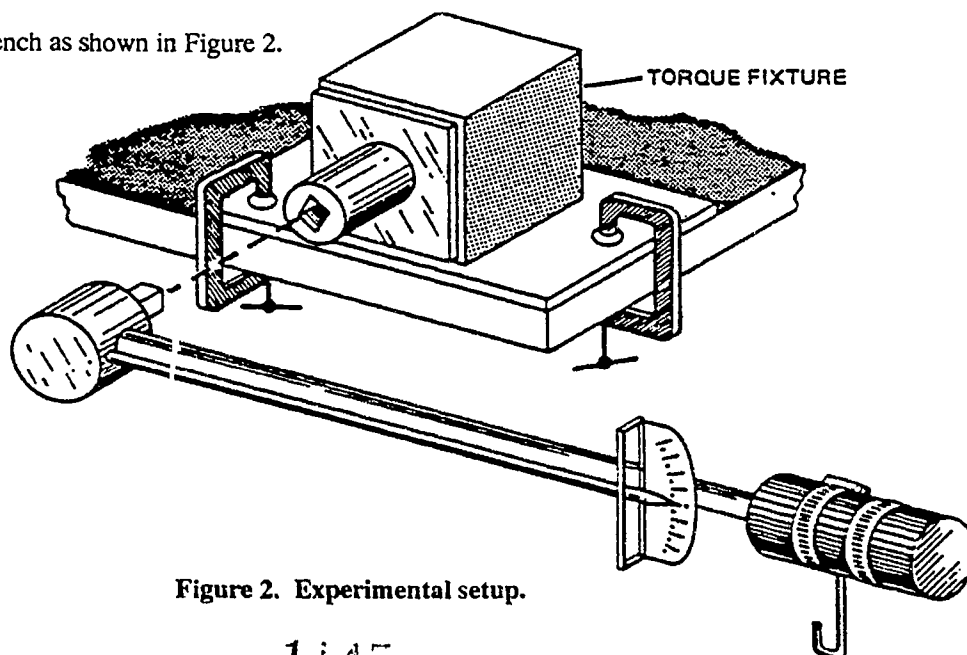

Figure 2. Experimental setup.
10. two hose clamps with hook as shown in Figure 2
1. Clamp the socket fixture to the front edge of the demonstration table as shown in Figure 2.
3. Connect torque wrench as shown in Figure 2.